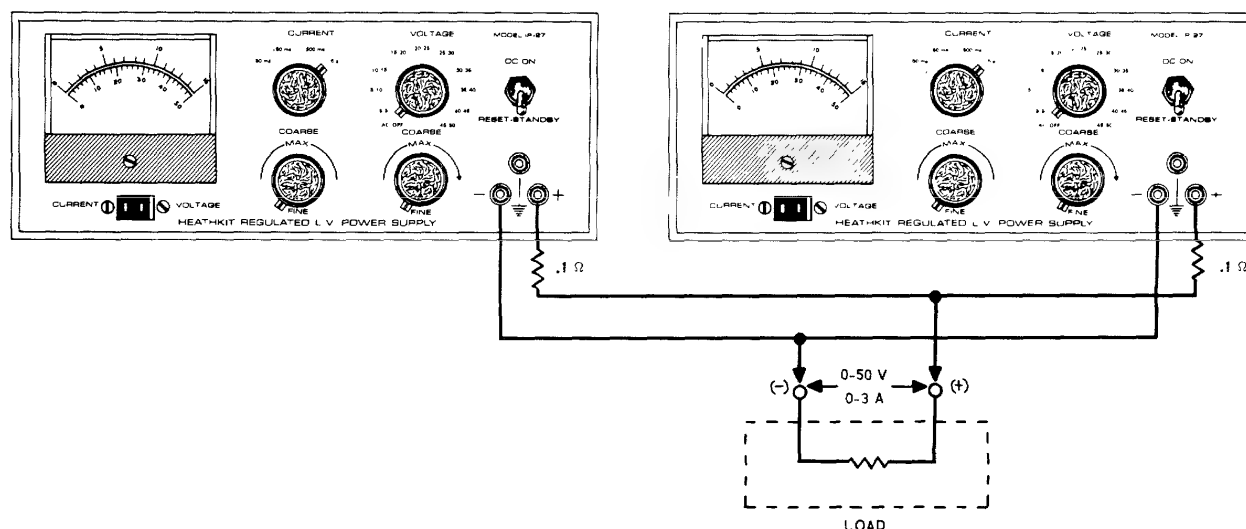

Figure 4
For higher current loads, two or more Power Supplies can be connected in parallel as shown in Figure 4. Parallel connection is accomplished as described in the following steps.
7. Connect the load as shown in Figure 4.